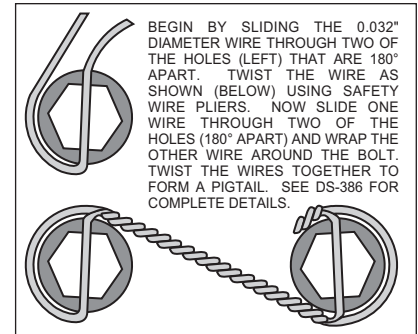
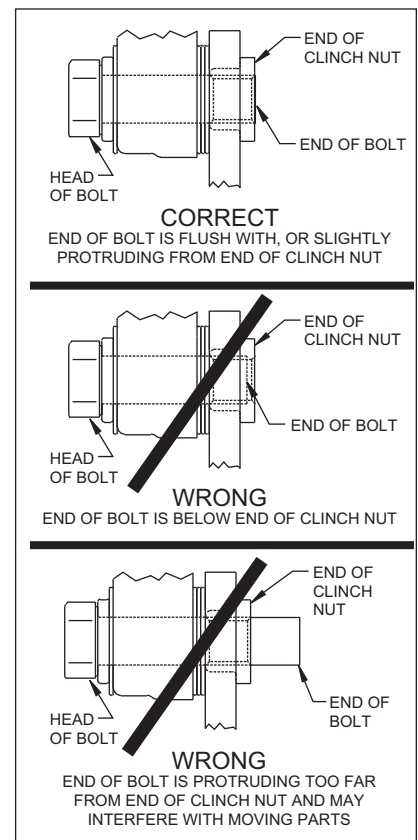

Figure 6. Safety Wire Diagram
Figure 7.
•With the slot pointing upward and the mounting ears pointing towards the rear of the vehicle, install the caliper mounting bracket (1) to the housing flange using the stock Original Equipment Manufacturer (OEM) bolts and nuts. Stock OEM hex nuts that retain the bracket (1) should be on the wheel side of the bracket. Apply red *Loctite*® 271 to the stock OEM bolt threads and torque to OEM specifications. **NOTE:** Some brackets act as the bearing retainers, while others help locate the bearing in the axle housing flange. If the stock bearing plates are still on the axle, the caliper mounting brackets (1) should be located between the axle housing flange and the bearing retainer plate. Make sure the heads of the caliper mounting bracket insert nuts are FACING OUTWARD TOWARDS THE WHEEL.
•Bolt the hat (2) to the rotor (3) using washers (4) and bolts (5). Torque bolts (5) to 180 in-lb. Safety wire bolts (5) using standard 0.032 inch diameter stainless steel safety wire as shown in Figure 6. Please refer to Wilwood's data sheet DS-386
•Align the correct hole pattern in the hat (2) with the stud pattern on the axle flange. **NOTE:** Some OEM and after market axles come with stud sizes larger than 0.50" diameter. Verify stud size and have a qualified machine shop drill the hats to the correct size. Slide the hat/rotor assembly (2 and 3) over the wheel studs and against the axle flange face.
•**NOTE:** Please reference the caution statement at the beginning of the assembly instructions. WITH THE BLEED SCREWS POINTING UP, mount the caliper (6) over the rotor (3) and onto the caliper mounting bracket (1) using washers (7) and mounting bolts (8). View the rotor through the top opening of the caliper. The rotor should be aligned in the center of the caliper. If not, adjust the caliper by using 0.032 inch shim washers (9), placing them between the caliper mounting bracket (1) and the caliper (6). Add as many shim washers (9) as necessary to achieve the correct alignment. **NOTE:** The end of the bolt must be flush with or slightly protruding from the head of the clinch nut. See Figure 7. Place spare shims (9) between washer and caliper mounting ear to achieve the proper mounting fastener configuration. Always use the same amount of shims on both the top and bottom caliper mounting bolts (8). Apply red *Loctite*® 271 to the mounting bolt threads (8), torque bolts to 30 ft-lb. Safety wire the caliper mounting bolts (8).
•Position the Wilwood disc brake pads (10) into the caliper (6) and fasten with cotter pin (11). Steel backing plate side of brake pad should face the caliper pistons.